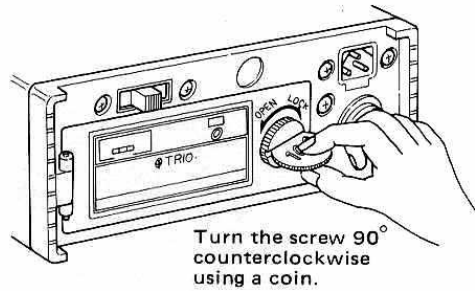

Fig. 1 How to Open the Lid
- ① Turn the battery removing screw at the bottom of the case using a coin and open the lid of the battery case (Fig. 1).
- ② Load nine UM-3 batteries or alkaline batteries (1.5V per cell) and the supplied dummy battery into the battery case. The dummy battery may be inserted in any place in the case.